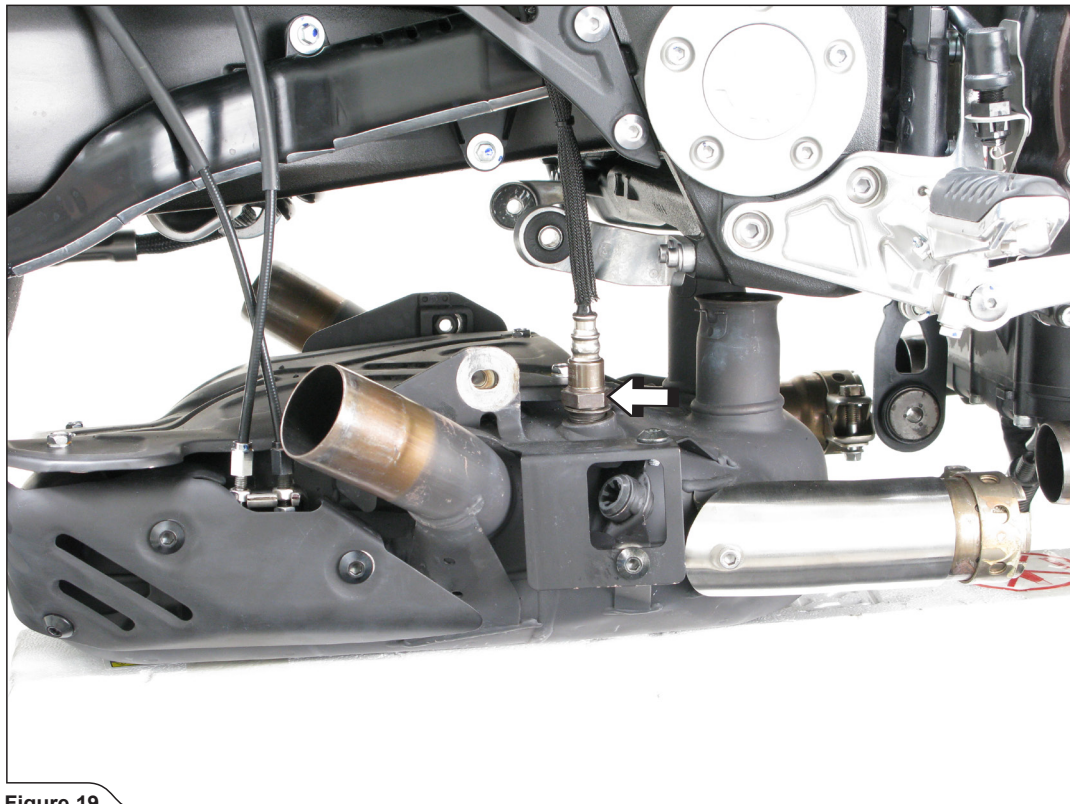

Figure 19
17. **For OPEN SLIP-ON only:** remove the stock catalytic converter box and unscrew the lambda sensor (Figure 19).